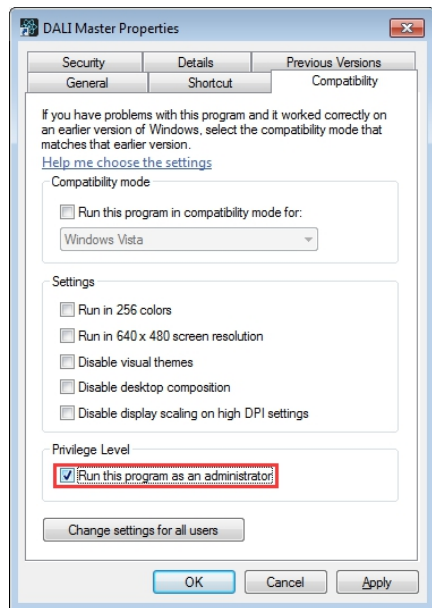

Figure 7 Run this program as an administrator
**Step 1:** Right click the desktop icon  to check the properties, switch to “Compatibility” tab, and check item “Run this program as an administrator” as shown in **Figure 7**.
**Step 2:** Click “OK” to complete the setting as shown in **Figure 7**.